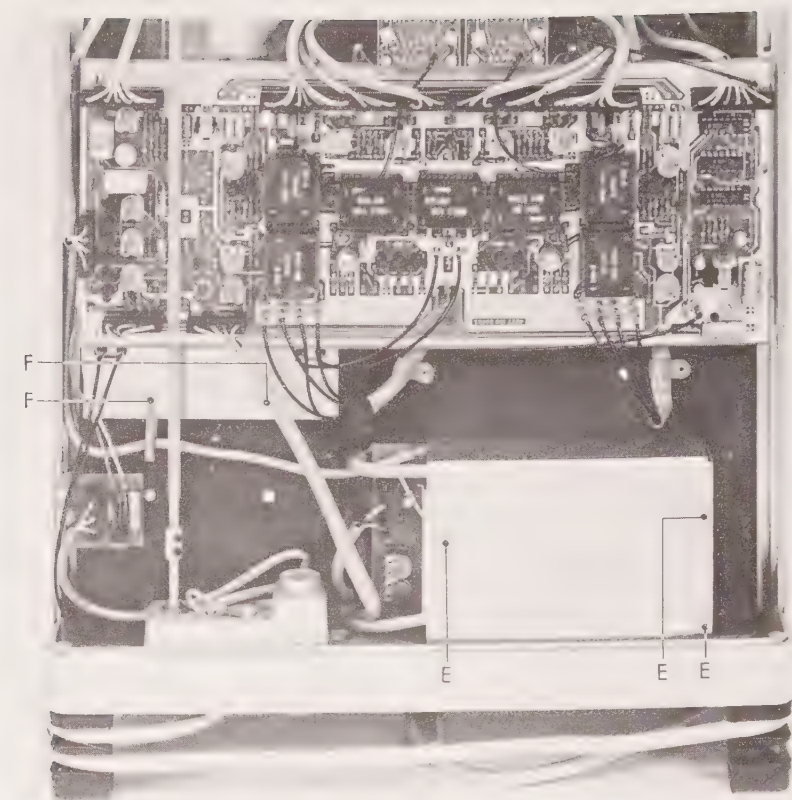

Fig. 3.5. Bottom view with dismantling references
- Remove the metal housing (three screws E in Fig. 3.5.)
- Remove the two screws F (Fig. 3.5.) and the four miniature coaxial connectors
- Remove the metal housing of the E.H.T. unit (3 screws E in Fig. 3.5.) and unplug the multipole connector of the focus unit